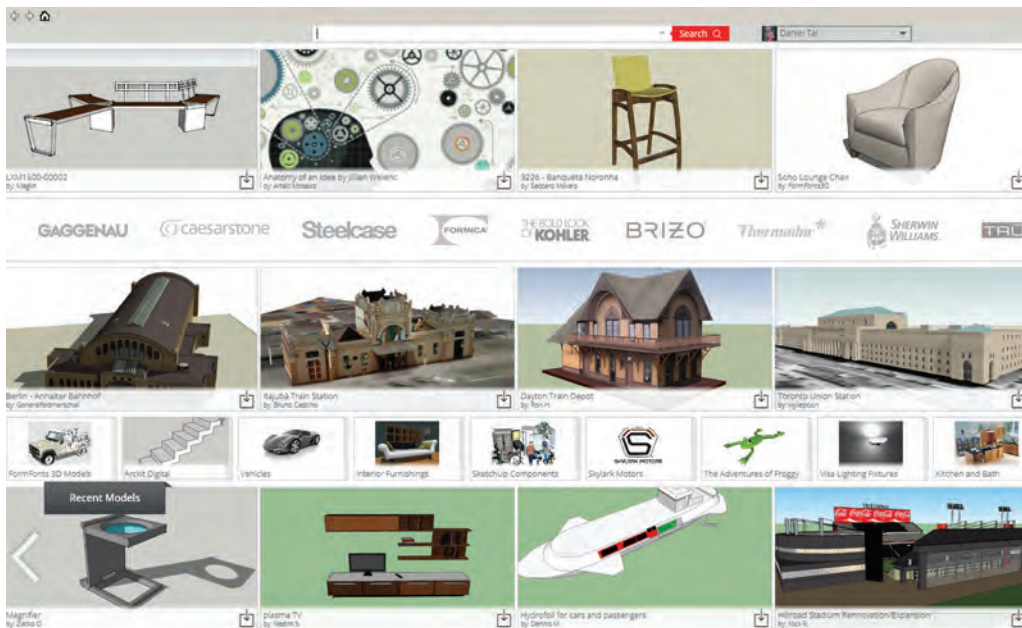

Fig. 1-4: 3D Warehouse contains all the tutorial and reference models found in this book.
2. The 3D Warehouse browser will open in SketchUp (see Fig. 1-4).